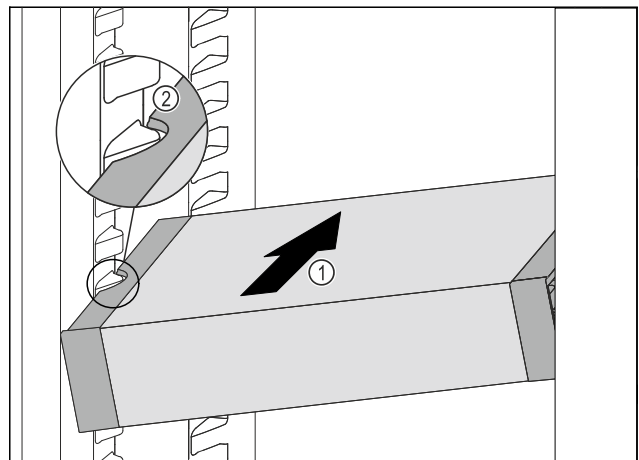

Fig. 113
- ▶ Insert the VarioSafe into the refrigerator compartment at an angle Fig. 113 (1) until the recesses in the side Fig. 113 (2) of the VarioSafe are at the level of the support rib in the refrigerator compartment.